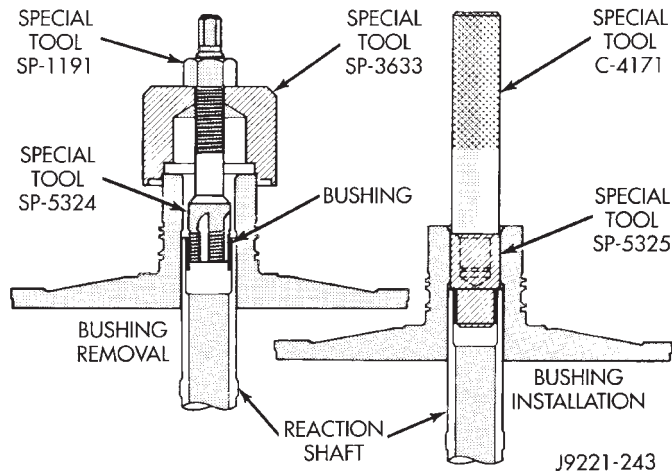

Fig. 125 Replacing Reaction Shaft Support Bushing
(1) Assemble Bushing Remover Tools SP-1191, 3633 and 5324 (Fig. 125). **Do not clamp any part of reaction shaft or support in vise.**
(2) Hold Cup Tool SP-3633 firmly against reaction shaft and thread remover SP-5324 into bushing as
(3) Turn remover tool hex nut down against remover cup to pull bushing from shaft. Clean all chips from shaft after bushing removal.
(4) Lightly grip old bushing in vise or with pliers and back remover tool out of bushing.
(5) Assemble Bushing Installer Tools C-4171 and SP-5325 (Fig. 125).
(6) Slide new bushing onto Installer Tool SP-5325.
(7) Position reaction shaft support upright on a clean smooth surface.
(8) Align bushing in bore. Then tap bushing into place until Bushing Installer SP-5325 bottoms.
(9) Clean reaction shaft support thoroughly after installing bushing.